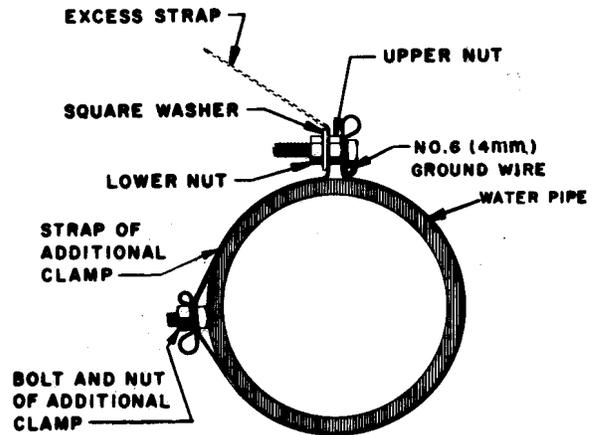
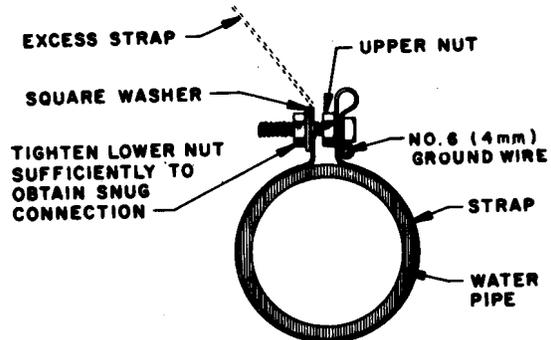
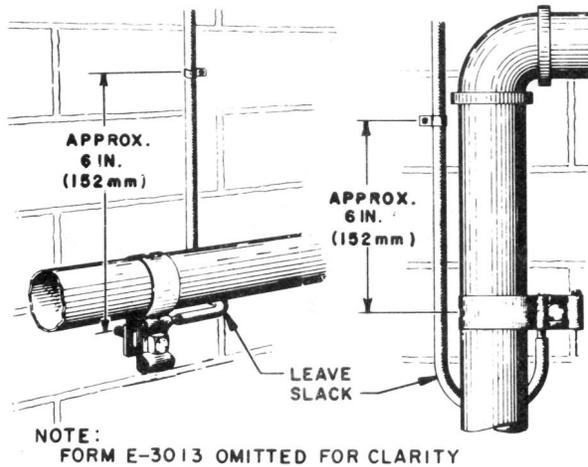

Fig. 62—Attaching L Ground Clamp to Pipes Larger Than 3 Inches
Fig. 63—Attaching L Ground Clamp to 3-Inch and Smaller Pipe
Fig. 64—Typical Installation—L Ground Clamp
- (5) Bend the strap around the pipe and engage the bolt with the farthest possible hole from the end of the strap. (On pipes larger than 3 inches, fasten two straps together [Fig. 62].)
- (6) Mount the square washer and lower nut on the bolt of the initial clamp and tighten nut.
- (7) Break off excess strap at the square washer and cut off excess length of bolt if it interferes with the installation of the clamp or projects in a hazardous manner (Fig. 63). (See Fig. 64 for typical installations of L ground clamp.)